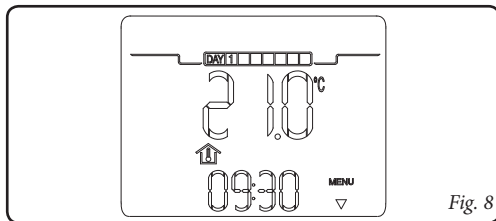

Fig. 8
- **Stand-by/anti-freeze mode** (*). In this mode, the boiler can only function in the event of anti-freeze request. In this state, the day, current time, any functioning anomalies and the room temperature are displayed (fig. 8).